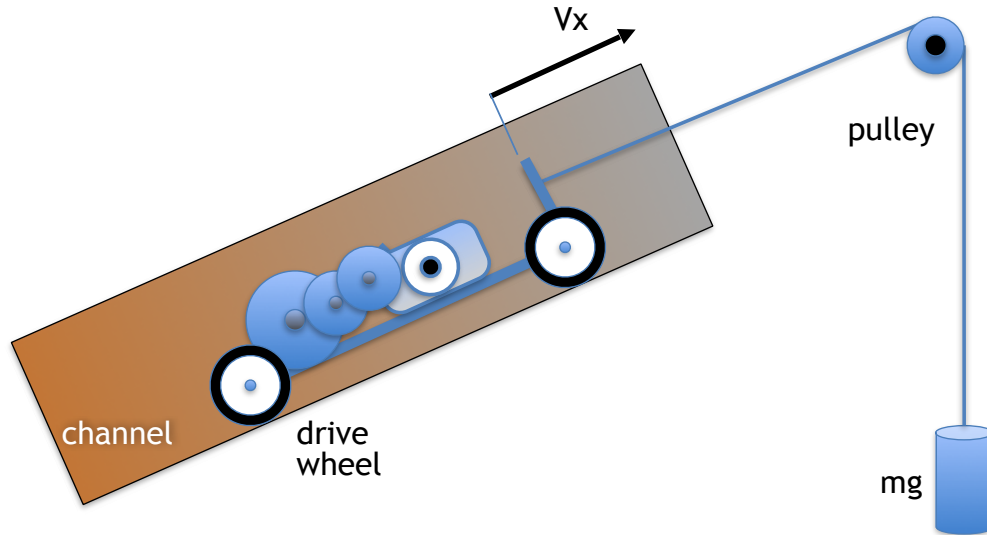

Figure 2: Measuring F and v_x in the channel
3. Getting an estimate of F can be a bit challenging, but is also possible (Fig. 2). Using a pulley and weights, you can estimate $F_{total} = F + F_{roll}$ where $F_{roll} = T_{roll}/r_w$. Add or remove sand from the container until the string just pulls your vehicle along, without accelerating. Use the digital scale to find out what the weight is. A subtle point, however, is that the force required to *pull* a vehicle through the channel may be slightly different (probably lower) than the force required to *drive* it, as discussed further in Section 4 below.
However, when we do the pulley test (Fig. 2) we define things a bit differently. We say that the “rolling resistance” is the force required to drag the vehicle along the channel (with $mg \sin \theta$ subtracted). The rolling power loss is therefore $P_{roll} = F_{roll} v_x$. Then we say that the slippage loss must be $P_{slip} = (r_w \omega_w - v_x) F_{slip}$ where $F_{slip} = f_x + F_{roll}$. The total power loss in operation is therefore $P_{loss} = F_{roll} v_x + (f_x + F_{roll})(r_w \omega_w - v_x)$ or, $P_{loss} = f_x (r_w \omega_w - v_x) + F_{roll} r_w \omega_w$, which is the same result as above. So we are using a slightly different definition of $F_{roll} v_{roll}$ and compensating with a correspondingly slightly different definition of F_{slip} .